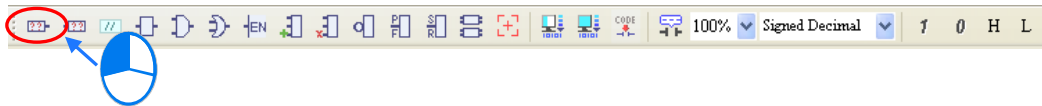

Figure 12-10 PMSoft toolbar
(1) The users have to click an icon on the PMSoft toolbar, as shown in figure 12-10.